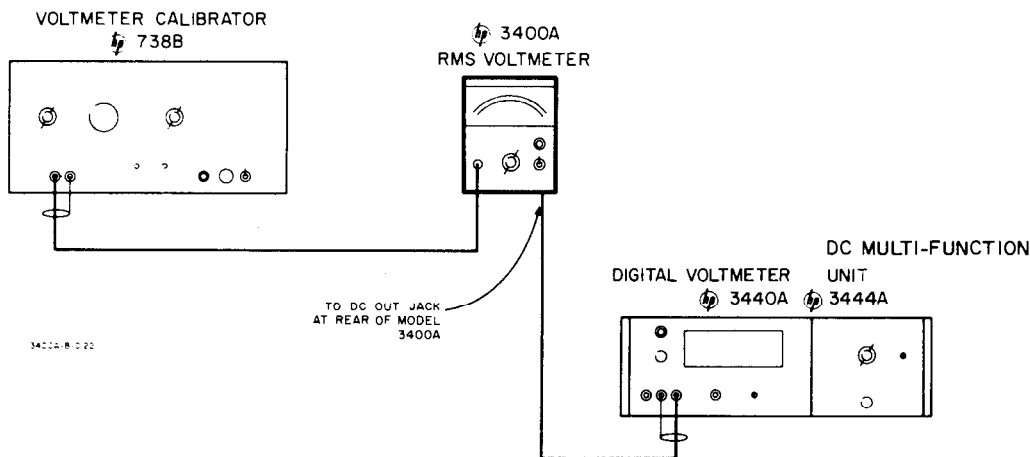

Figure 5-1. Accuracy, Linearity, and DC Output Test Setup
5-8. The accuracy, linearity, and dc output test setup is illustrated in Figure 5-1. A Voltmeter Calibrator (Model 738B) and a DC Voltmeter (Model 3440A 3444A) are required for this test.
- Connect test setup illustrated in Figure 5-1.